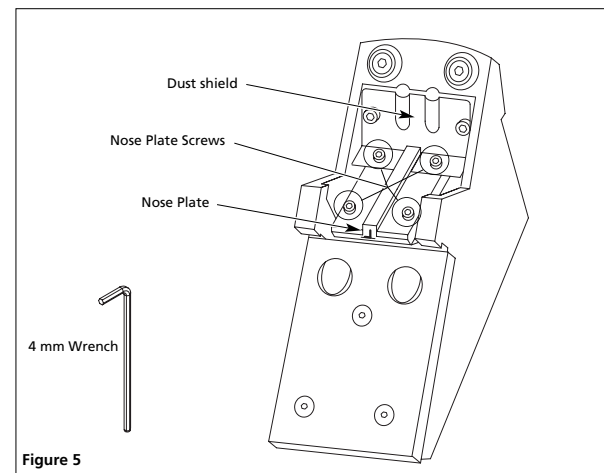

Figure 5
**CLEARING A JAM FROM THE NAILER (SEE FIGURE 5)**